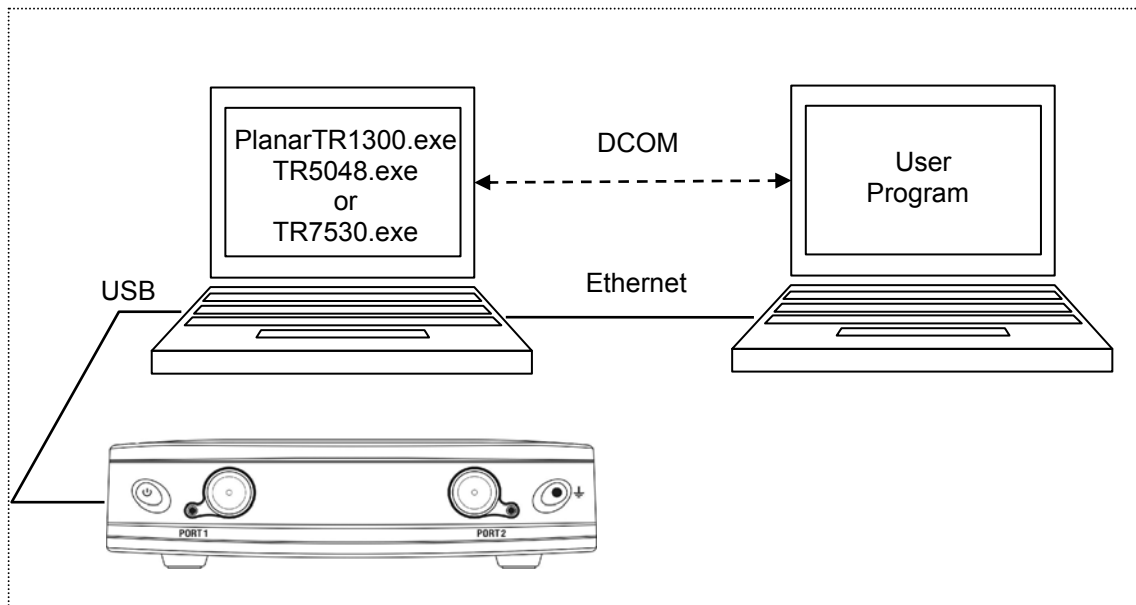

Figure 2. DCOM technology
*Remote server* and the automation controller run on different PCs connected by LAN. DCOM (Distributed COM) technology is used in this case (Figure 2). When using